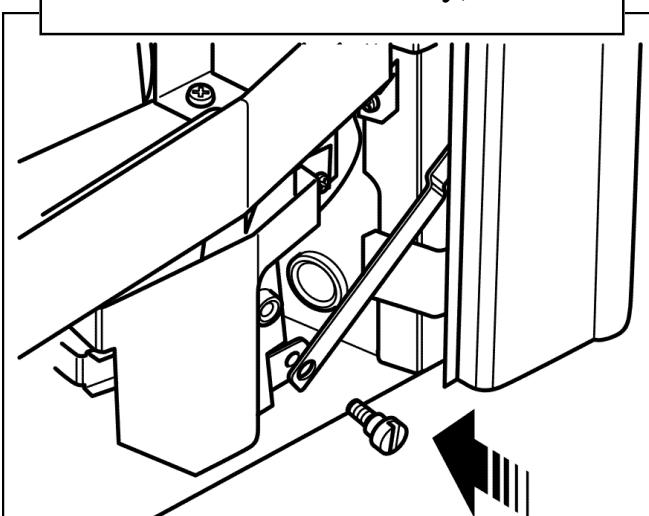

Figure 26. Shouldered screw.
2. Connect the control linkage to the control pivot plate using the shouldered screw and using a screwdriver (NOT finger tight only) (See figure 26).
5. Connect the control linkage to the control pivot plate using the shouldered screw previously removed and using a screwdriver (NOT finger tight only) (See figure 26).